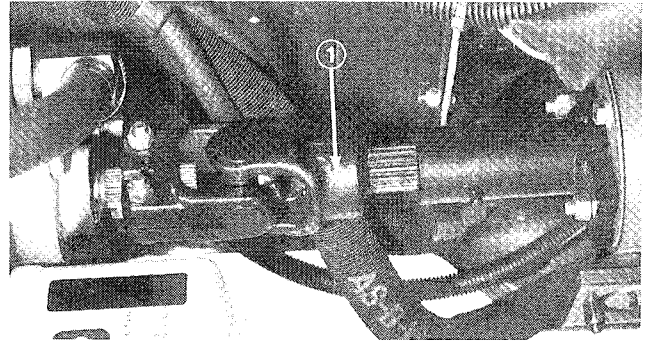

Figure 30
TOWING TRACTION UNIT (Fig. 30 & 31)
1. Loosen and remove capscrews securing the drive shaft to the engine drive coupler. Loosen capscrews clamping drive shaft to transmission (Fig. 30). Remove drive shaft.
5. When towing is completed, reinstall driveshaft as shown in figure 30. The splines are designed to allow assembly only when the two halves of the shaft are properly oriented.